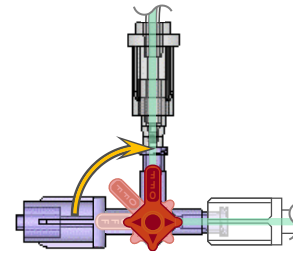

Figure 3 – DyeVert Power XT Stopcock OFF
- 9) Turn the DyeVert Power XT Stopcock OFF toward the *Valve Selection Stopcock*. (See Figure 3)